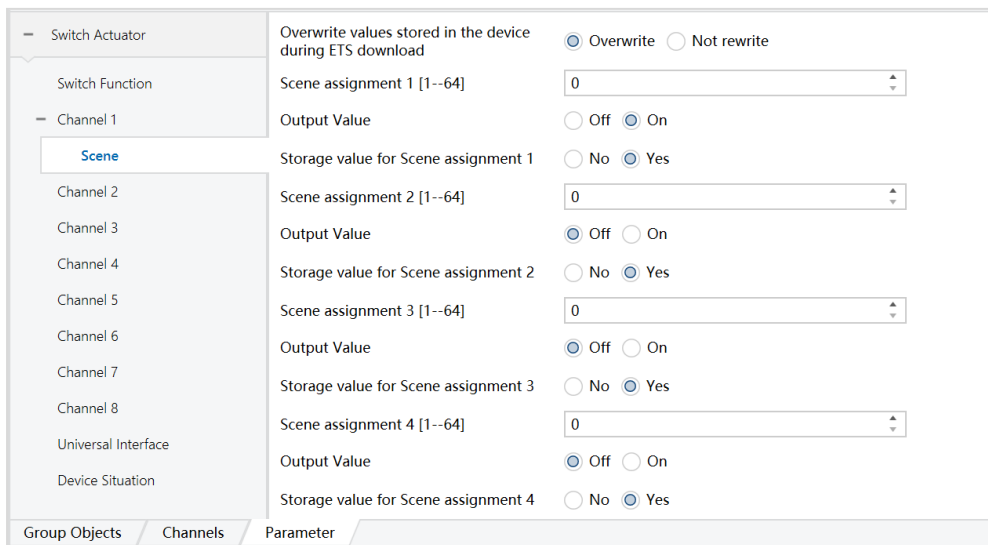

Figure 6.1.4
<p>8-bit scene control</p>	<p>Scene control function, options: Enabled, Disabled, when "Enabled" is selected, the "scene" option appears in the corresponding channel on the left side of the interface, click "scene", and the interface is switched as shown in Figure 6.1.4. In the interface ① parameter "Overwrite values stored in the device during ETS download", options are: Overwrite, Not rewrite; ②parameter "Scene assignment 1—64" indicates the setting of the scene number, and the scene number can be set to 1-64; ③parameter "Output Value" indicates the output value of the channel operation corresponding to the scene number, options: On, Off; ④Parameter "Storage value for Scene assignment X" Options: No, Yes, (for example: Channel 1 and Channel 2 are in the parameter "Scene" Assignment 1[1-64] "Select "1", "Storage value for Scene assignment 1" select "Yes", the communication object takes the group address 3/1/1 as an example, after downloading the data, first execute the module On the manual control operation CH1 and CH2 are On), enter the group address 3/1/1 in the "diagnosis" on the ETS, then select "Learn" in the "Value", select "1" for the scene number, on the bus If it is issued, the scene number "1" is completed to learn the state of the actuators CH1 and CH2 On.)</p>
8-bit scene control	Scene control function, options: Enabled, Disabled, when "Enabled" is selected, the "scene" option appears in the corresponding channel on the left side of the interface, click "scene", the interface is switched as shown in Figure 6.1.4. In the interface ①parameter "Overwrite values stored in the device during ETS download", options: Overwrite, Not rewrite; ② parameter "Scene assignment 1-64; ③parameter "Output Value", options: On, Off; ④ parameter" Storage value for Scene assignment X" Options: No, Yes, (For example: Channel 1 and Channel 2 select "1" in the parameter "Scene assignment 1[1-64]" , select "Yes" for "Storage value for Scene assignment 1" " ", the communication object takes the group address 3/1/1 as an example. After downloading the data, manually control CH1 and CH2 on the execution module to be On (on), and enter the group at the "diagnosis" position on the ETS. Address 3/1/1, then select "Learn" in "Value", select "1" for the scene number, and send it on the bus, then the scene number "1" is completed to learn the state of the actuators CH1 and CH2 On.)
8-bit scene control	Scene control function, options: Enabled, Disabled, when "Enabled" is selected, the "scene" option appears in the corresponding channel on the left side of the interface, click "scene", the interface is switched as shown in Figure 6.1.4. In the interface ①parameter "Overwrite values stored in the device during ETS download", options: Overwrite, Not rewrite; ② parameter "Scene assignment 1—64"; ③parameter "Output Value", options: On, Off; ④ parameter "Storage value for Scene assignment X", options: No, Yes, (for example: Channel 1 and Channel 2 are selected in parameter "Scene assignment 1[1-64]" "1", "Storage value for Scene assignment 1" When "Yes", the communication object takes the group address 3/1/1 as an example. After downloading the data, manually control CH1 and CH2 on the